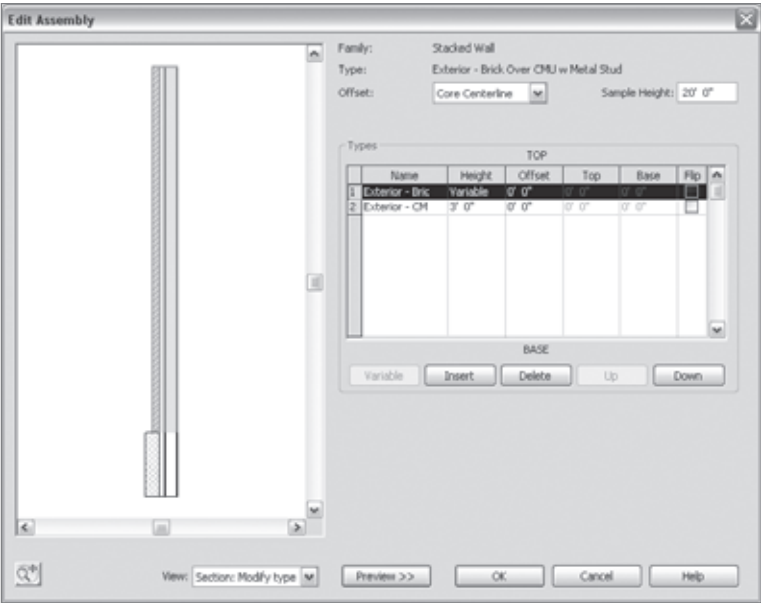

Figure 6.10
3. Edit the Structure parameter, and click the Preview button to see the wall in section (Figure 6.10). When you're editing the stacked wall type, you'll notice that the dialog box is slightly different than when you're working with a basic wall. Rather than editing individual wall layers, this dialog box allows you to stack predefined wall types on top of each other.